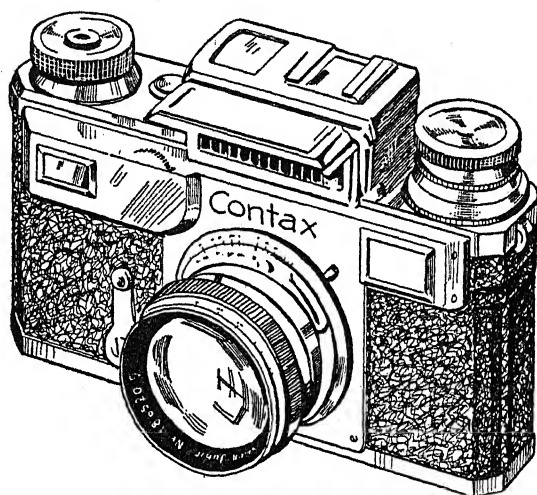

FIG. 49.—THE ZEISS CONTAX MINIATURE CAMERA
f.1.5 lens is \$370.00, while the prices in between these two extremes vary with the model of the camera and the speed of the lens that is used with it. The *Contax III* is pictured in *Fig. 49*.